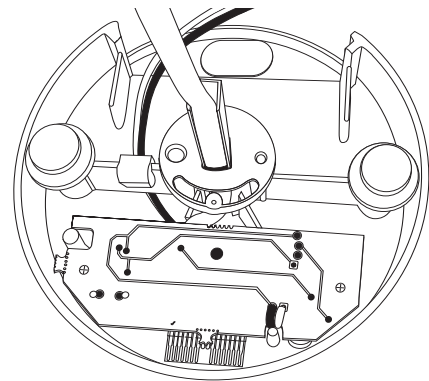

Figure 7
- Figure 7 shows an example Left-Handed or Vertical-Down positioning.